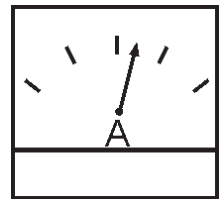

Figure 55. Ammeter (Load)
19. Observe the generator's ammeter (Figure 55) and verify it reads the anticipated amount of current with respect to the load. The ammeter will only display a current reading if a load is in use.